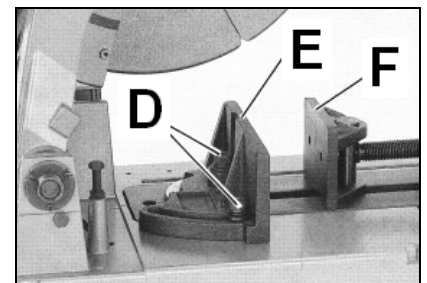

Fig 4
Loose the screws (D, Fig 4) and lock the adjustable vice jaw (E) in the desired mitre position. Retighten the screws.